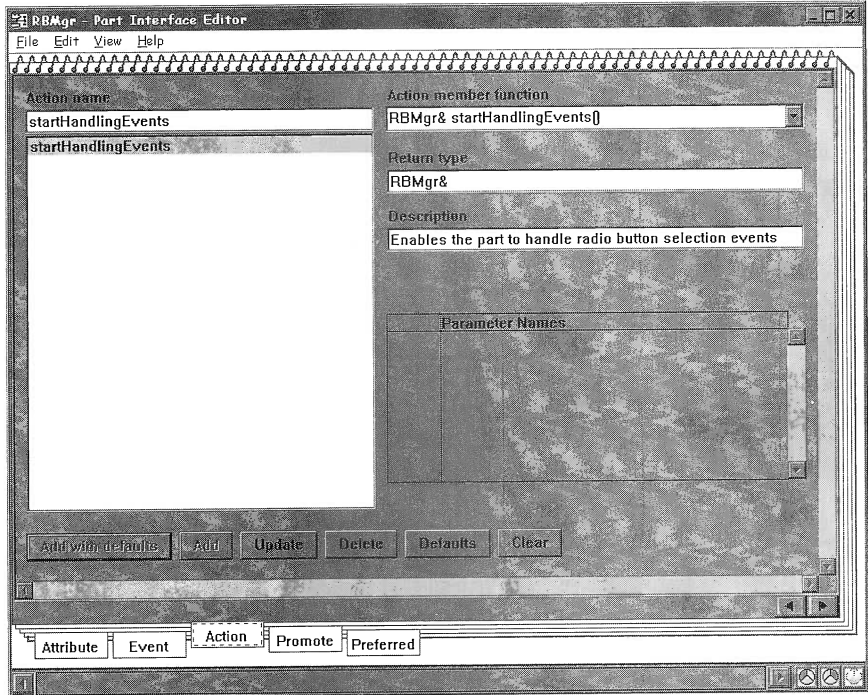

Figure 139: Actions for the RBMgr part
- ☐ Enter the definitions of the **startHandlingEvents** action as shown in Figure 139. The return type is **RBMgr&** and the function takes no parameters.